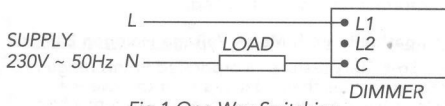
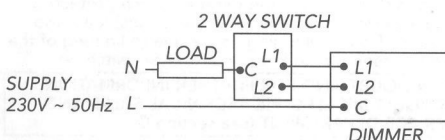

Fig. 1 One Way Switching
Fig. 2 Two Way Switching (only 1 Dimmer can be used)
8. Insert the bared ends of the wires fully into the relevant terminals and securely tighten the Terminal Screws (refer to fig.1 for one way switching and fig. 2 for two way switching).